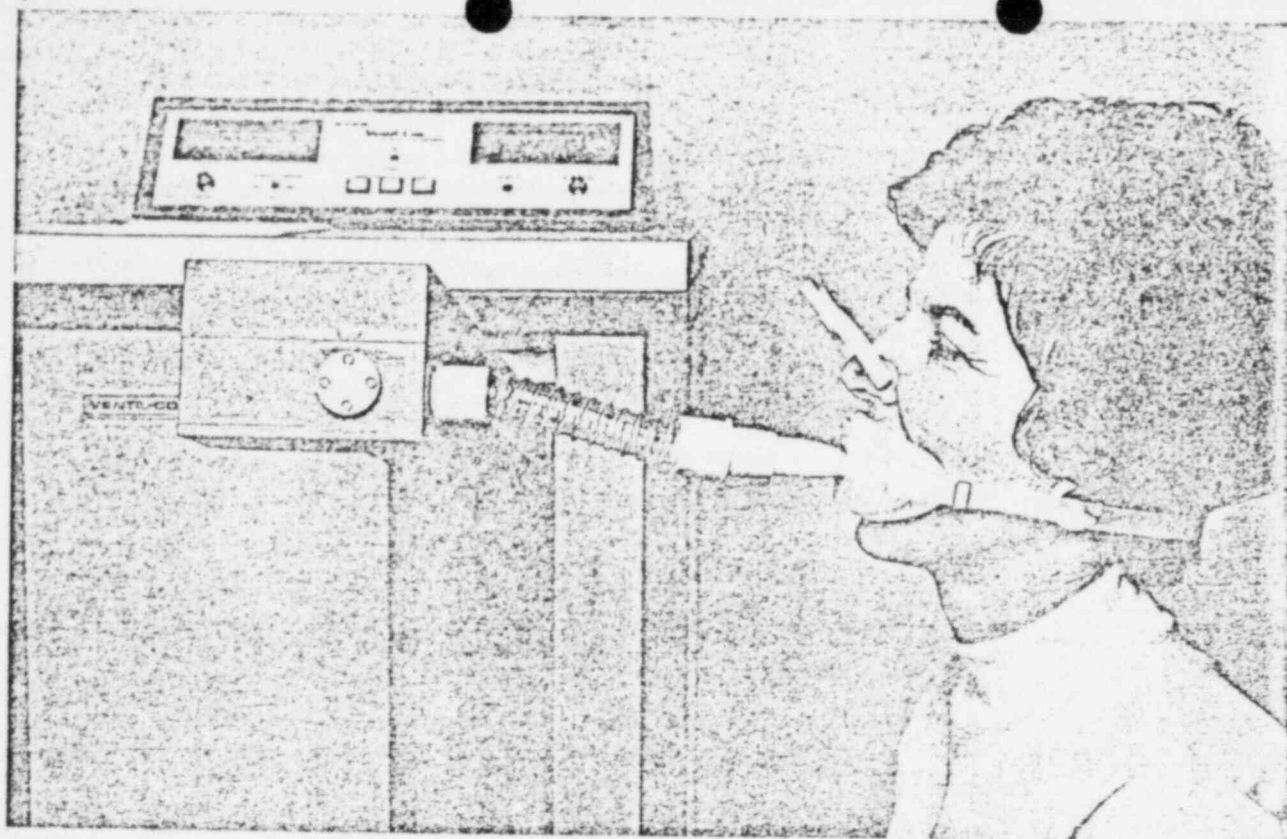

Figure 18. Proper patient position for ventilation study (sitting).
- 6.1.5 Position the patient and delivery arm for the study. (See Figure 18.)